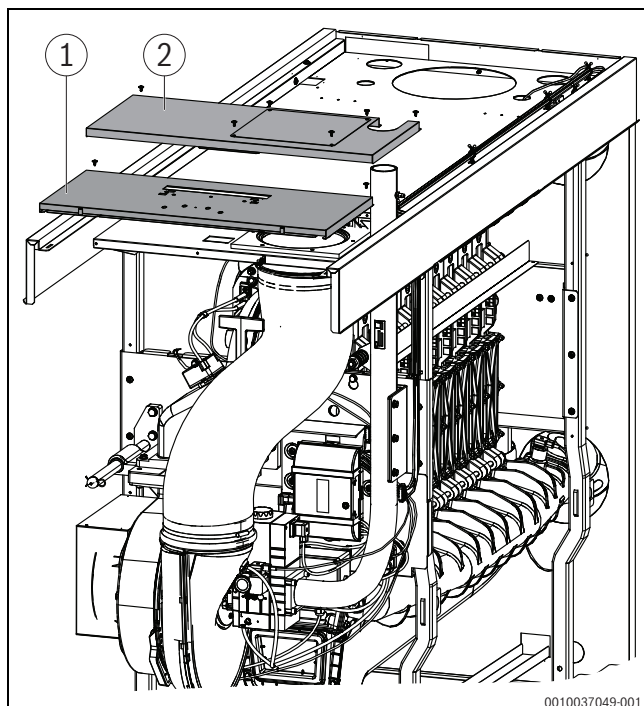

Fig. 32 Install the front hood
- ▶ After the cables have been routed, install the hood supply air cover (→ Fig. 32). In doing so, insert the angled tab in the respective recess of the front hood.